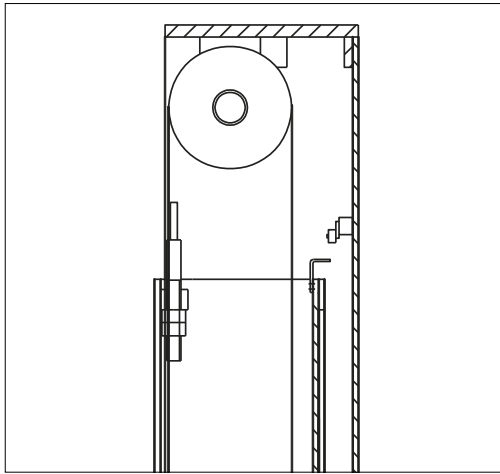

Fig. 14
- ◆ If the lift reaches to the maximum height, the up limit switch will stop the lifting. (**Fig. 14**)
- ◆ If the moving part exceed its travel distance, on the upper part of the command post there is one limit switch and is usually set working by the “actuator” (Fig. 14) on the command side carriage. If the first limit switch did not work, the second one would trip after 3sec of carriage run.